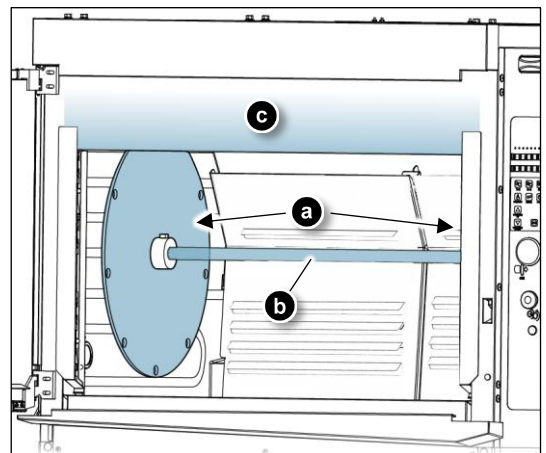

Figure 4-2
6. By referring to Figure 4-2, spray SOIL SHIELD evenly onto: